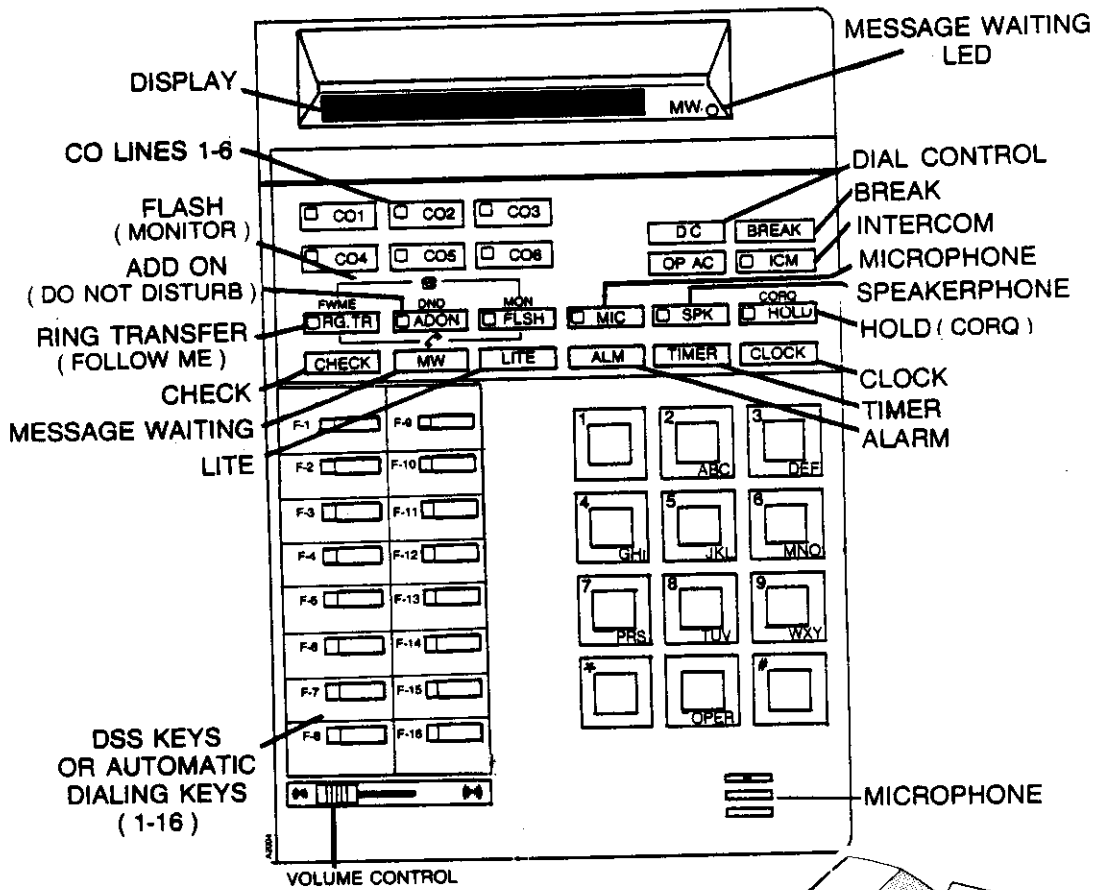

Figure 2-2 EXECUTIVE DISPLAY KEY TELEPHONE, EK-616, KEY DESIGNATIONS
2.03 The EK-616 Executive Display Key Telephone (Figure 2-2) provides all the features of the Standard Key Telephones and several unique features including power failure operation and a display indicating call and feature status. There are 16 DSS keys which also provide Busy Lamp Field (BLF) indications and Automatic Dialer Functions. The Executive Display Key Telephone is used to program the system.